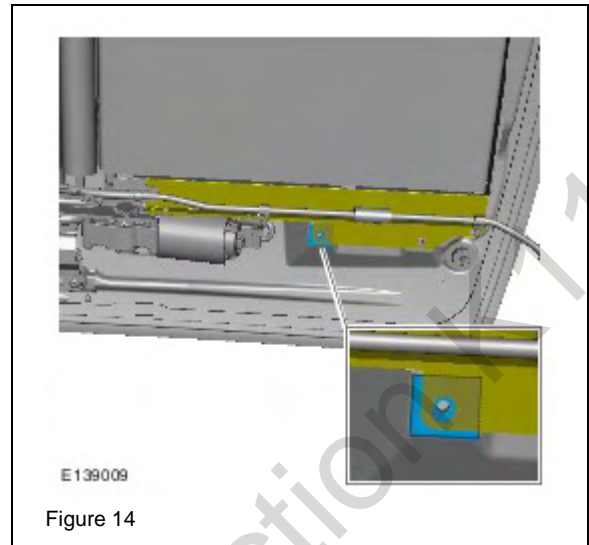

Figure 13
18. Using a suitable marker, mark the lateral position of the rail. (Figure 13)